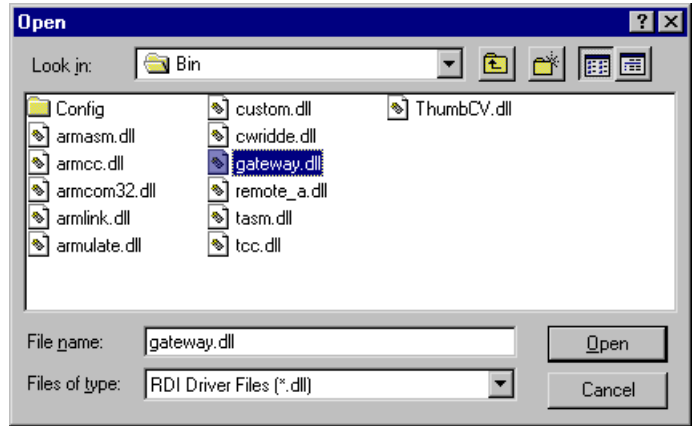

Figure 2 Adding the gateway dll
3. Click **Add....** A standard file dialog is displayed (Figure 2)